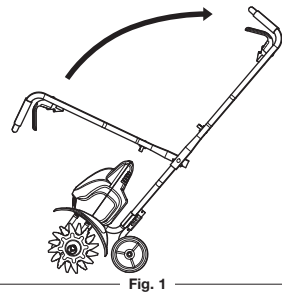

Fig. 1
2. With the unit upright, swing the handlebars up into the operating position (Fig. 1).